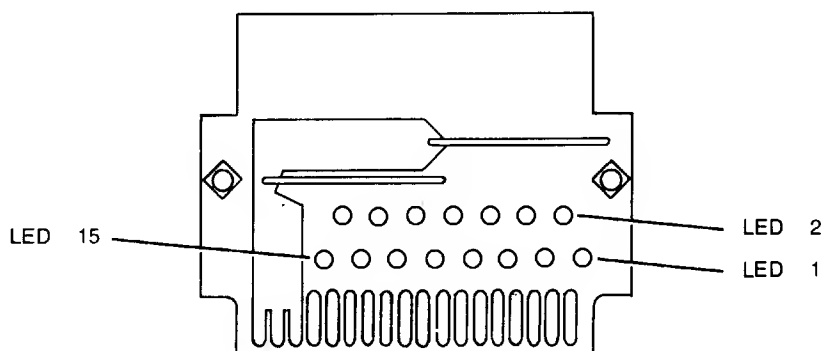

Figure 6-7 Head Load Assembly
- 4) With component side up, plug the long connector side of the Head Load Assembly (figure 6-7) into TPM PCA connector (slot in TPM mainframe). Ensure that the Head Load Assembly is seated fully into TPM mainframe.